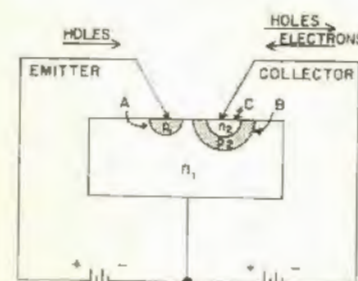

Fig. 11—Point contact biasing.
The biasing applied to the emitter is conventional as shown in Fig. 11; the forward bias reducing the space charge at (A) for forward carrier flow. At the collector, however, we are faced with conditions differing considerably from a conventional transistor. Here the collector junction actually to be taken into consideration for reverse biasing is at (B). In operation, holes from the emitter and base are swept across this junction and then on to the negative terminal of the battery through junction (C) by virtue of the high electric field set up across both junctions in series by the reverse bias.